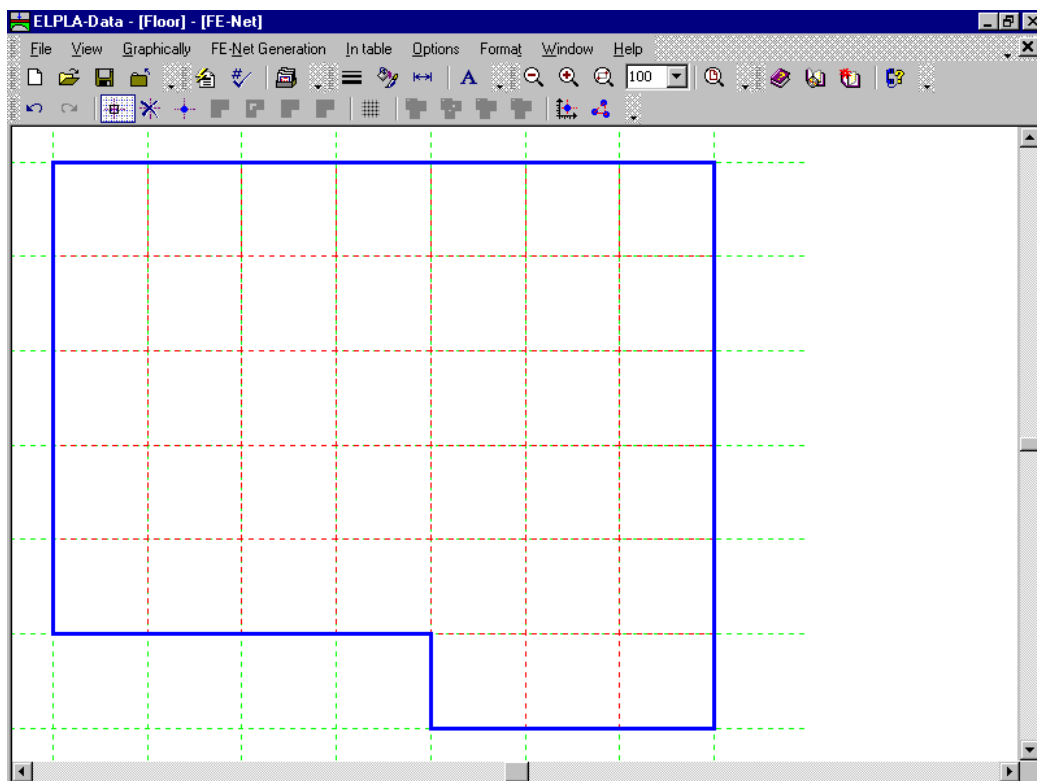

Figure 2-13 Final FE-Net after deleting the unnecessary nodes
To remove the selected nodes, choose "Remove nodes" command from the "Graphically" menu. The action of this command is indicated in Figure 2-13. To leave the graphic mode, press "Esc" key.
- Choose "Save FE-Net" command from "File" menu in Figure 2-13 to save the data of the FE-Net
- Choose "Close FE-Net" command from "File" menu in Figure 2-13 to close "FE-Net" embedded program and to return to the main window of *ELPLA-Data*